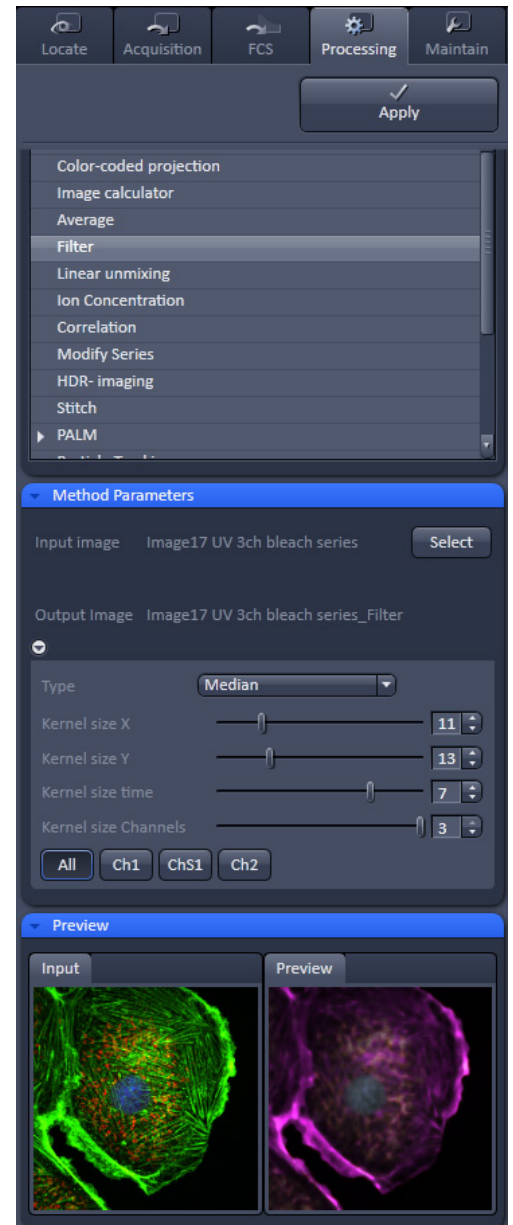

Fig. 384 Processing – Filter
- To open the **Filter** tool, select it from the list in the **Processing** main tab (Fig. 384).